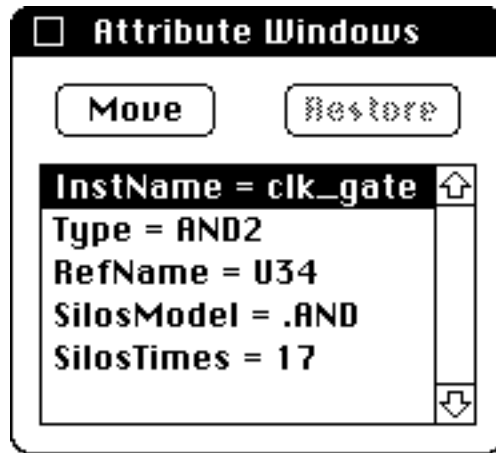

Figure 5-5 Add->Show Attributes Dialog Box in Schematic Editor
2. Select a symbol instance whose attribute windows you wish to modify. A dialog box is displayed as in Figure 5-5 showing the attributes that can currently be displayed on the selected instance.